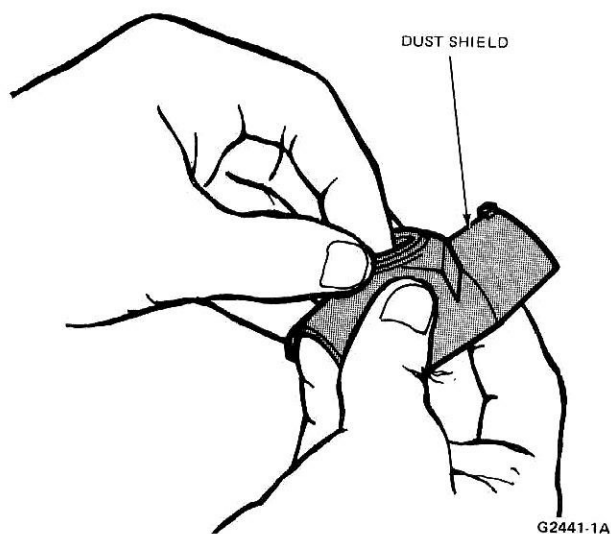

FIG. 11 Inspecting Dust Shield
11. Remove the two dust shield clamp screws, and remove the dust shield. Inspect the shield for damage in the garter spring area (Fig. 11).